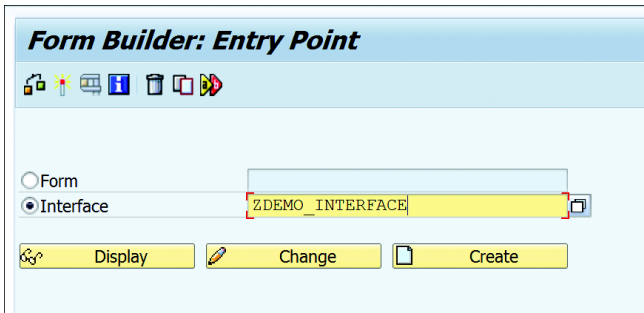

Figure 18.63 Form Builder Initial Screen
1. To use Object Navigator to create the interface, select **CREATE • FORM OBJECT • INTERFACE** from the context menu within the package. Alternately, you can use Form Builder. Figure 18.63 shows the initial screen of Form Builder.